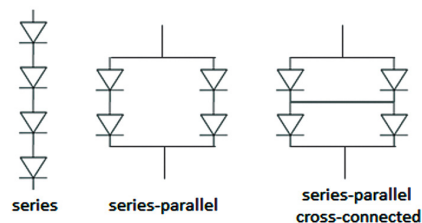

Figure 9. An example of how four LEDs can be connected.
Further, multiple LEDs can be electrically connected in three major configurations as shown in Figure 9.
- c. Series-parallel cross-connected. Each LED is connected as an array as shown in Figure 9. The forward voltage of individual LED in parallel to other LEDs must closely match, unlike in series-parallel where only the LED string voltage must match instead of individual LED.